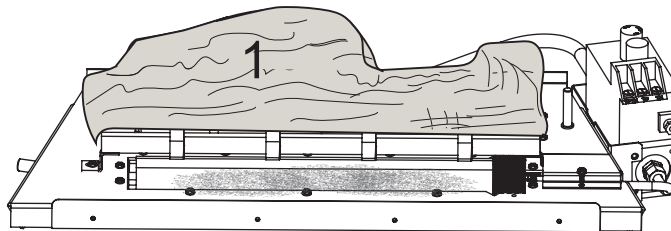

Figure 5.11 - Log #1 Placement
- Hold log #1 with the pointed end to the left. Place log #1 behind the grate by positioning the two pin locator holes on the bottom of the log over the pins behind the grate. Push the log down to make sure it rests flat over the metal base. See Figure 5.11.